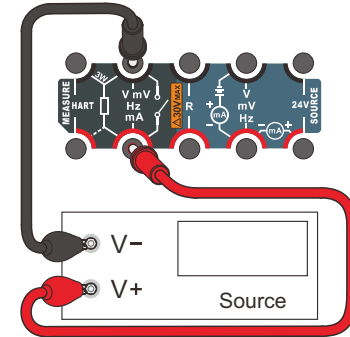

Figure 8.2 Millivolts or Volts Measurement
1. Figure 8.2 shows the millivolts measurement connections.
1. Figure 8.2 shows the volts measurement connections.